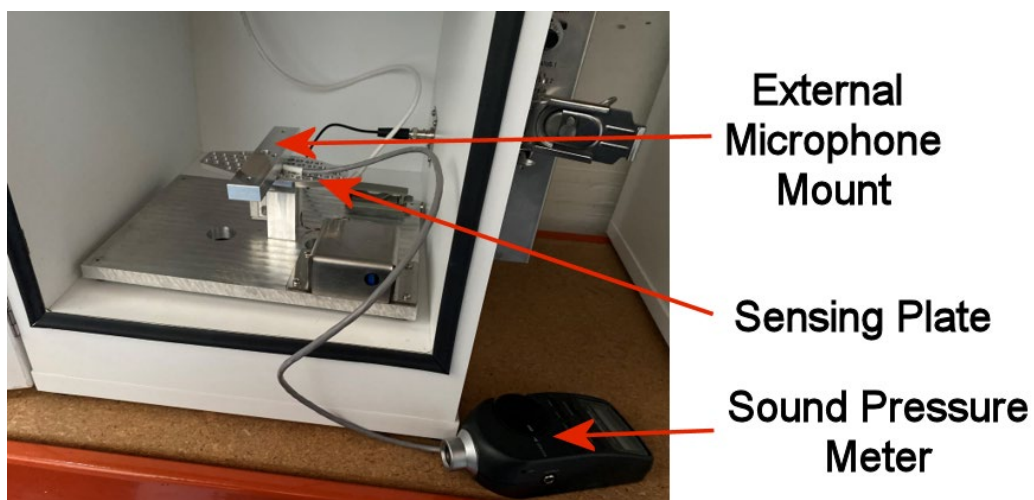

Figure 118 External Microphone & Sound Pressure Meter Installation
1. Refer to Figure 118 and place the external microphone mount of the Sound Pressure Meter on top of the sensing plate.